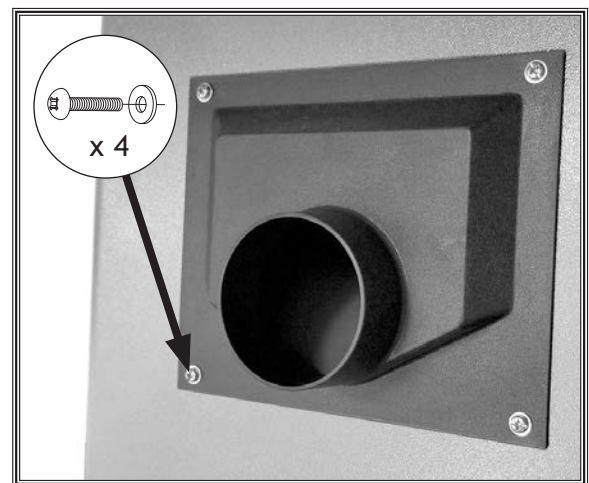

Figure 19. Dust port installed.
19. Install dust port with (4) 1/4"-20 x 1/2" Phillips head screws and (4) 1/4" flat washers (see Figure 19).